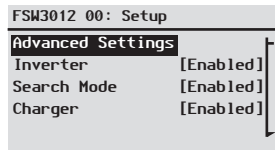

Figure 24 Selecting Advanced Settings From the Device Setup Screen
1. On the **FSW3012 00:Setup** screen (Figure 24), press the **Enter**, Up arrow, Down arrow buttons simultaneously to make **Advanced Settings** appear in the list.